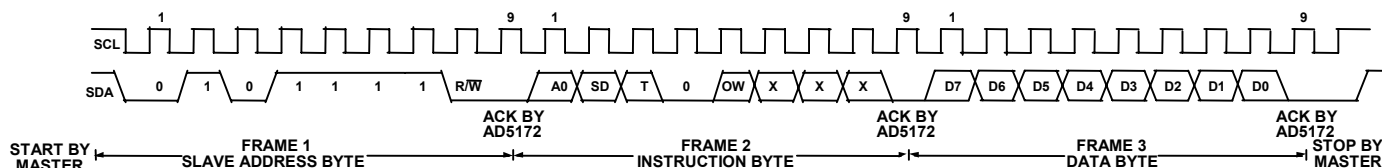
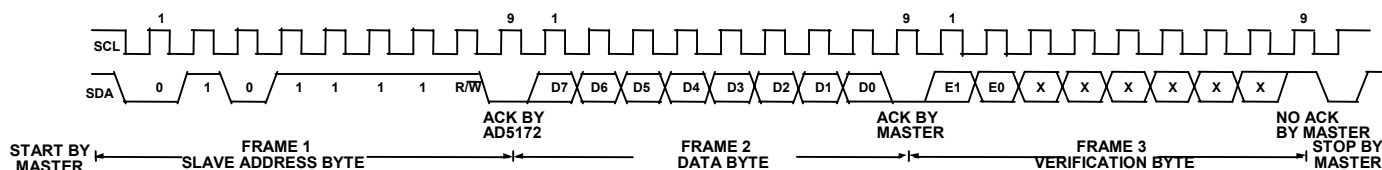
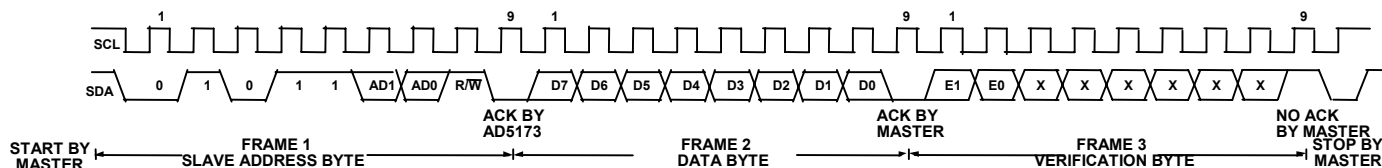

Figure 39. Writing to the RDAC Register – AD5172
Figure 41. Reading Data from a Previously Selected RDAC Register in Write Mode – AD5172
Figure 42 Reading Data from a Previously Selected RDAC Register in Write Mode – AD5173
After acknowledging the instruction byte, the last byte in write mode is the data byte. Data is transmitted over the serial bus in sequences of nine clock pulses (eight data bits followed by an acknowledge bit). The transitions on the SDA line must occur during the low period of SCL and remain stable during the high period of SCL (see Figures 39 and 40).
3. In the read mode, the data byte follows immediately after the acknowledgment of the slave address byte. Data is transmitted over the serial bus in sequences of nine clock pulses(a slight difference with the write mode, where there are eight data bits followed by an acknowledge bit). Similarly, the transitions on the SDA line must occur during the low period of SCL and remain stable during the high period of SCL (see Figure 41 and Figure 42).
Note that the channel of interest is the one that is previously selected in the Write Mode. In the case where users need to read the RDAC values of both channels, they need to program the first channel in the Write Mode and then change to the Read Mode to read the first channel value. After that, they need to change back to the Write Mode with the second channel selected and read the second channel value in the Read Mode again. It is not necessary for users to issue the Frame 3 data byte in the write mode for subsequent readback operation. Users should refer to Figure 41 for the programming format.
4. After all data bits have been read or written, a STOP condition is established by the master. A STOP condition is defined as a low-to-high transition on the SDA line while SCL is high. In write mode, the master will pull the SDA line high during the tenth clock pulse to establish a STOP condition (see Figure 39) In read mode, the master will issue a No Acknowledge for the ninth clock pulse (i.e., the SDA line remains high). The master will then bring the SDA line low before the tenth clock pulse which goes high to establish a STOP condition (see Figure 41).